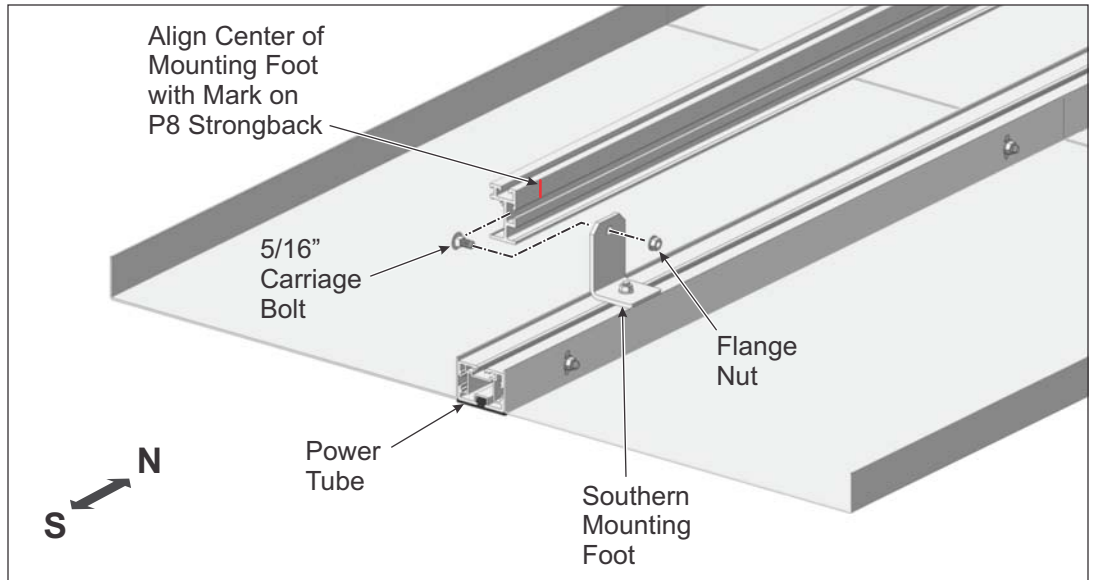

Figure 3-2: Attaching P8 Strongback to Southern Mounting Foot
- D. Secure with 5/16" flange nut. Finger tighten for now. (See Figure 3-2)